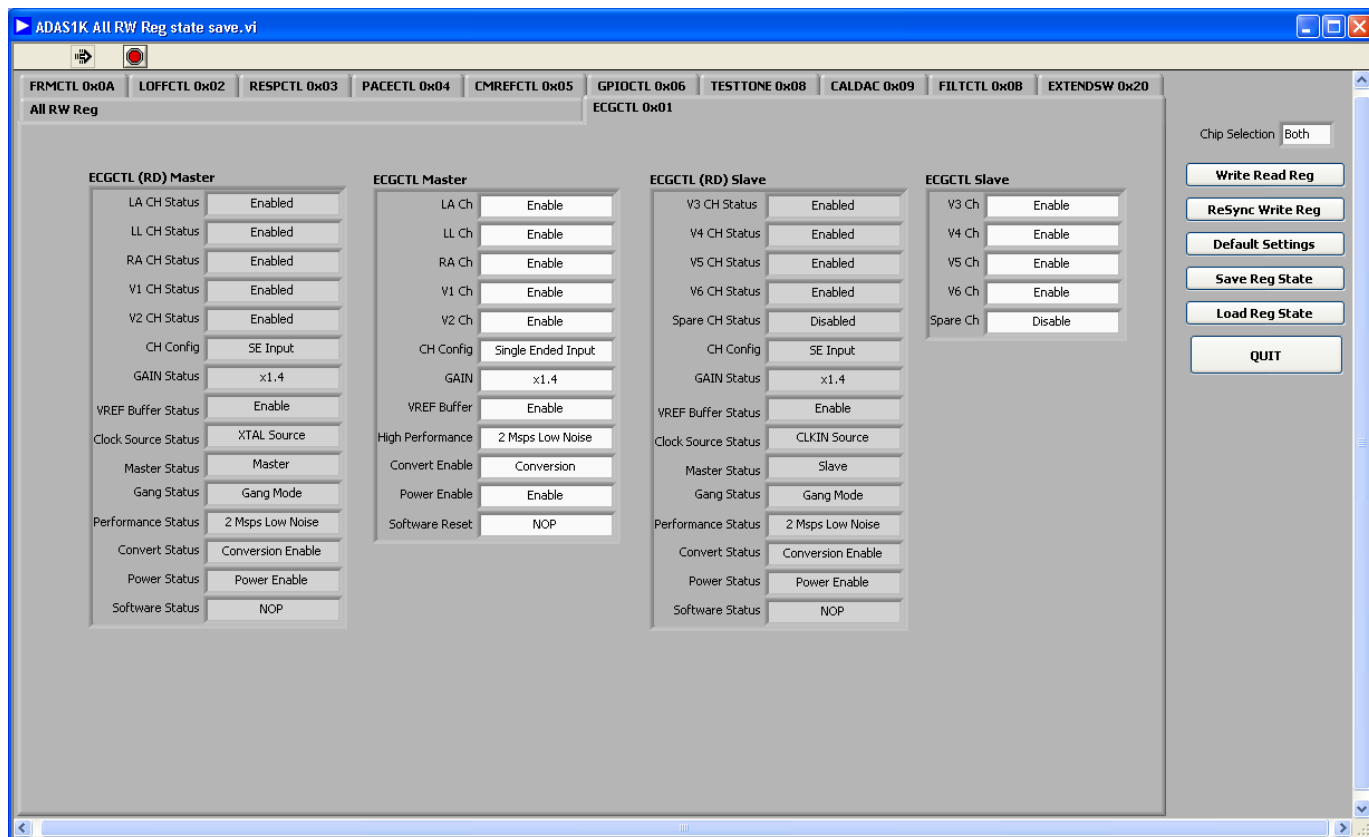

Figure 15. ECG Control Register
Within the tabs of this window all the individual control registers can be accessed. The ECG control register is shown in Figure 15, giving access to master and slave control. Note that for certain conditions, the slave device must match the master device configuration. As a result, the software locks out some of the slave control to ensure that the settings of the master and slave will always match (for example, gain setting, high performance mode, clock source, and so on).
1. Configure the **ADAS1000** for electrode mode in the ECGCTL register (see Figure 15) to be able to see these signals correctly. If the **ADAS1000** is configured for vector/lead mode, then the test tone signals are subtracted from each other. Also, in the CMREFCTL register, none of the electrodes should be configured to contribute to the common-mode signal.